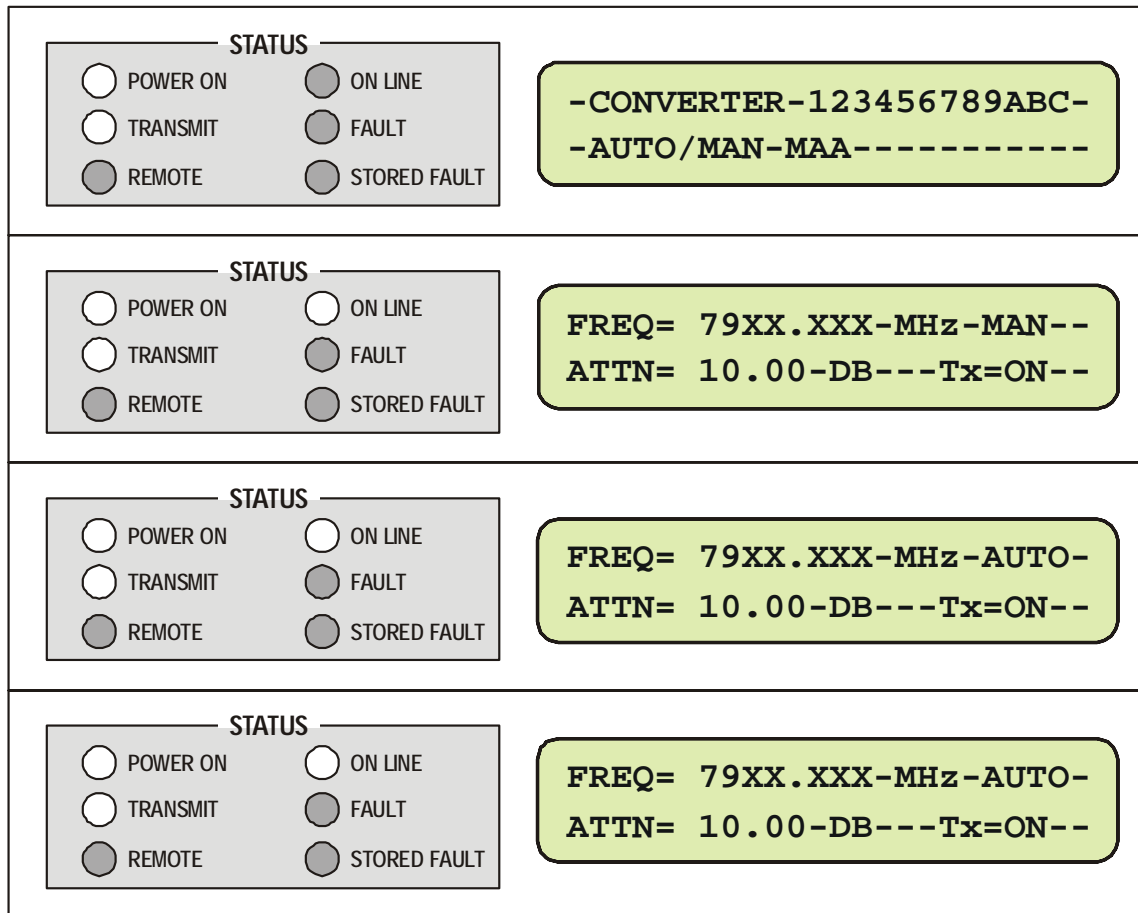

Figure 31. Converter #1 in MANUAL, Others in AUTO
Figure 31 shows the system with converter #1 configured for manual(M) operation. In this mode, the backup converter can force switchover of an online unit. This mode also overrides fault status detection of the online units performed by the backup converter. If an online unit is configured to manual mode and this unit faults, no switchover will occur.